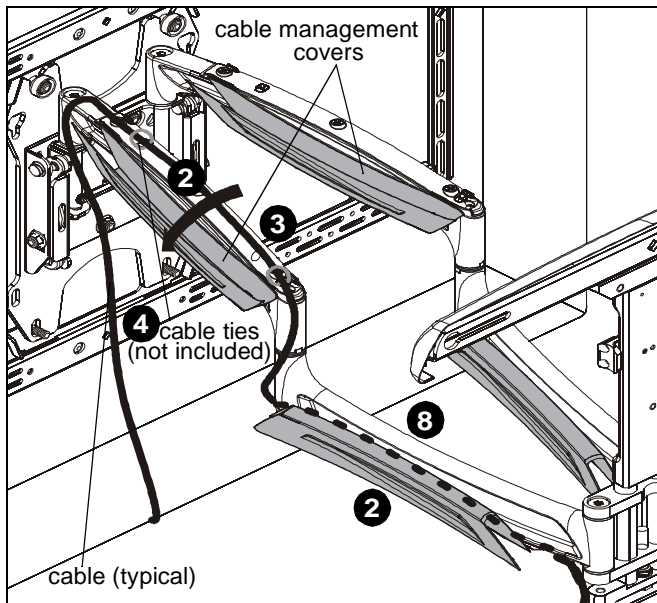

Figure 22
2. Open cable management covers on upper and lower swing arms. (See Figure 22)
3. Route cables on top of upper arm. (See Figure 22)
4. (Optional) Use cable ties (not included) to secure cables to upper arms by threading ties around cable and through cable tie holes on arms. (See Figure 22)
5. Close upper cable management cover. (See Figure 22)
6. Route cables under lower portion of swing arm. (See Figure 22)
7. (Optional) Use cable ties (not included) to secure cables to lower arms by threading ties around cable and through cable tie holes on arms. (See Figure 22)
8. Close lower cable management cover. (See Figure 22)